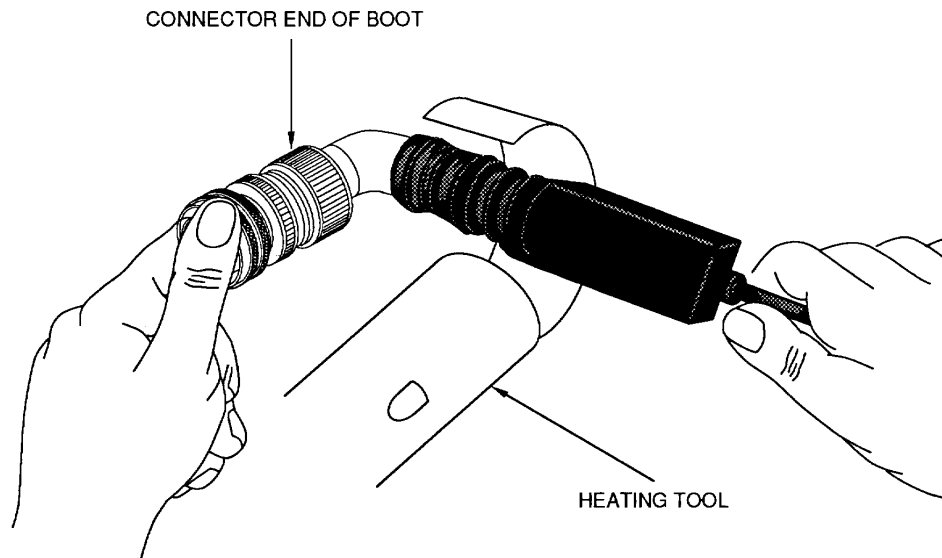

Figure 14. Shrinking Boot Over Connector Adapter
i. Using heat gun and reflector shrink boot onto backshell adapter or connector first, then work toward cable end of boot (Figure 14).
(1) For hot melt adhesive use wooden paddle.
(2) For thermosetting (epoxy) adhesive use clean cloth or tissue.